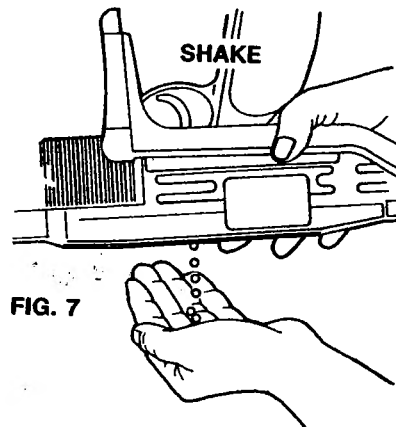

FIG. 7
- Slide the BB loading port cover back, turn the pistol upside down, point the barrel downward just slightly and shake until all BBs are removed from the magazine. (Fig. 7)